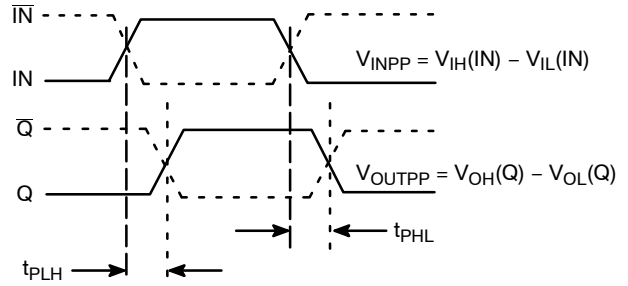

Figure 6. AC Reference Measurement
**DATA/CLOCK INPUTS (IN,  $\bar{\text{IN}}$ )** (Note 7) (Figures 6 & 7)